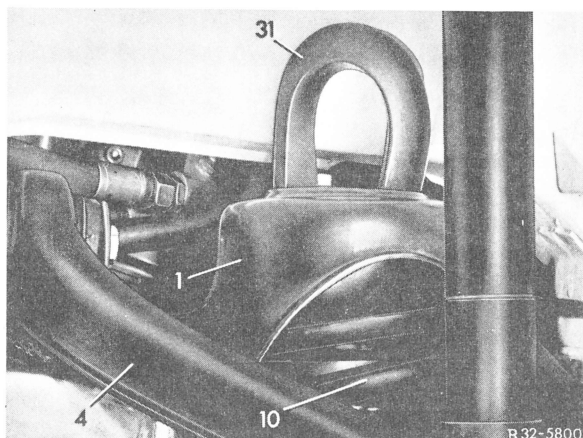

Fig. 5
- 6 Remove rubber mounting in upward direction through opening in front axle carrier (Fig. 5).